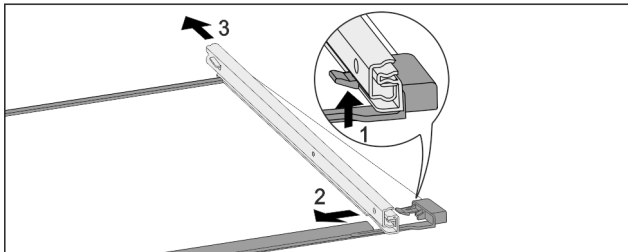

Fig. 67 Glass shelf with rails
- ▶ Push up front click-in hooks. Fig. 67 (1)
- ▶ Move the pull-out rails to the side Fig. 67 (2) and to the rear Fig. 67 (3).